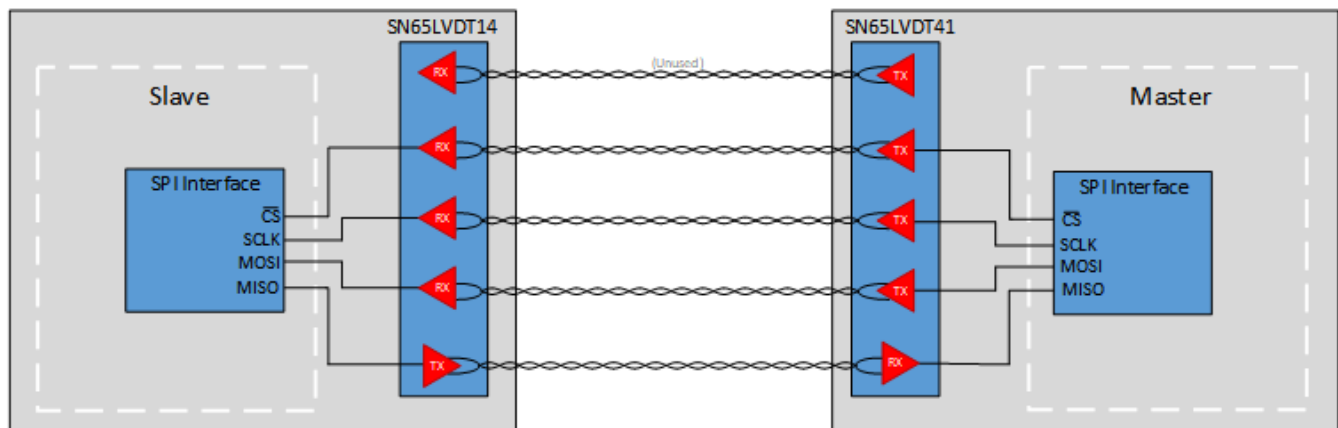

Figure 18. Typical SPI Application With LVDS
SPI operates in a master-slave architecture, with four unidirectional signal lines. The master supplies data named Master-Out-Slave-In (MOSI), a clock (SCK), and a optional Chip Select (CS) signal to control the operation of the system with multiple slave devices. The MOSI, SCLK, and \overline{CS} signals are unidirectional from the master device to slave devices. The serial data from slave to master device is a unidirectional signal named Master-In-Slave-Out (MISO). The flow of data can be seen in Figure 18.